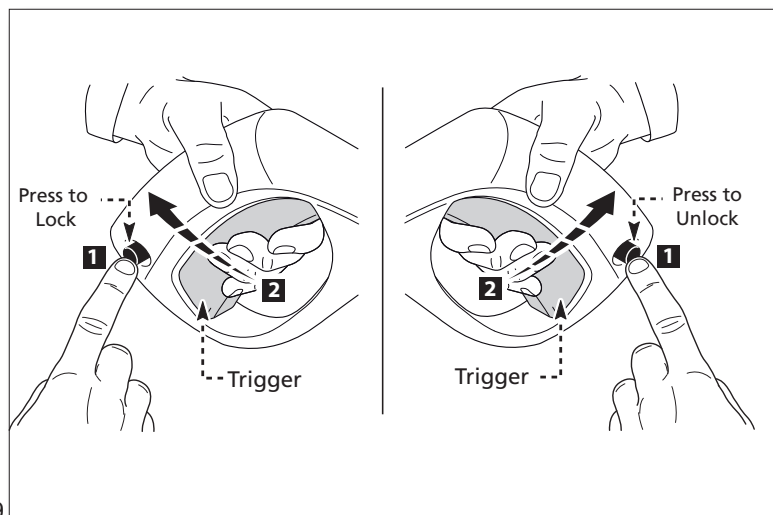

Fig. 20
- Release the safety lock button on the spray gun by pressing the safety lock button from right to left **(Fig. 20)**. While pointing the spray gun in a safe direction, squeeze the trigger on the spray gun until there is a steady stream of water, letting the water and air out of the hose.
- Turn the power switch to the ‘ON’ (I) position. The unit will turn on for 1 - 2 seconds and shut off, this is a normal function of the (TSS) auto start feature. Squeeze the spray gun trigger to begin pressure washing.